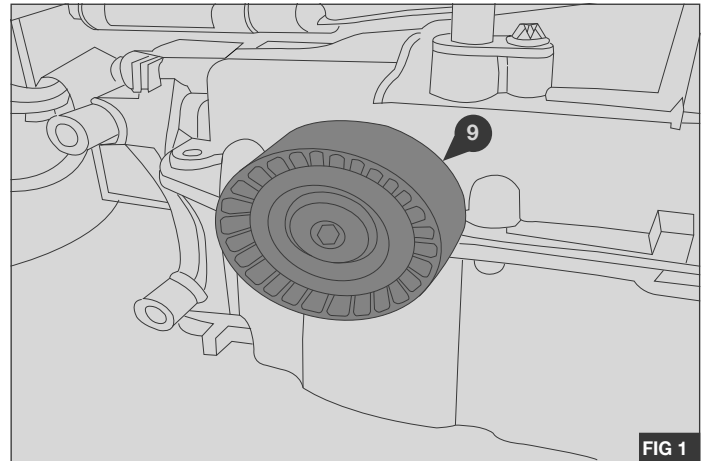

FIG 1
1. Using a suitable TORX® drive, remove the original manufacturers idle pulley assembly and retain for future use ⑨ - Fig.1